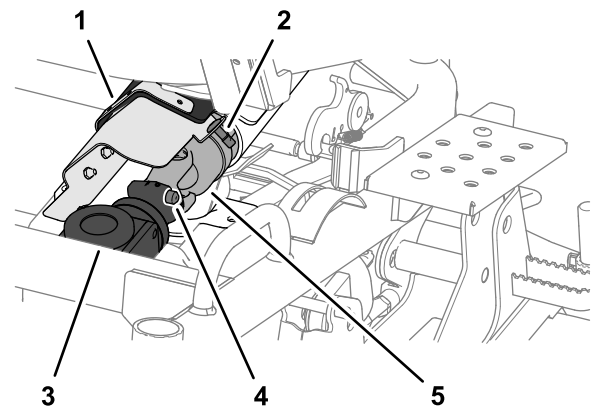

Figure 112
1. Rotate the quarter-turn fastener and open the universal-joint cover from the belt cover (Figure 112).
2. Disconnect the forward end of the driveshaft from the mower-deck gearbox by pressing the spring-loaded pin, and then pulling the end of the driveshaft rearward (Figure 112).
1. Align the splines of the driveshaft-universal joint with the splines in the gearbox coupling; refer to Figure 112 in Disconnecting the Driveshaft from the Mower-Deck Gearbox (page 74).
2. Press the spring-loaded pin and then push the end of the driveshaft forward; refer to Figure 112 in Disconnecting the Driveshaft from the Mower-Deck Gearbox (page 74).
3. Release the spring-loaded pin and check that the universal joint of the driveshaft is locked into the mower-deck gearbox; refer to Figure 112 in Disconnecting the Driveshaft from the Mower-Deck Gearbox (page 74).
4. Close the universal-joint cover and secure it to the belt cover with the quarter-turn fastener; refer to Figure 112 in Disconnecting the Driveshaft from the Mower-Deck Gearbox (page 74).